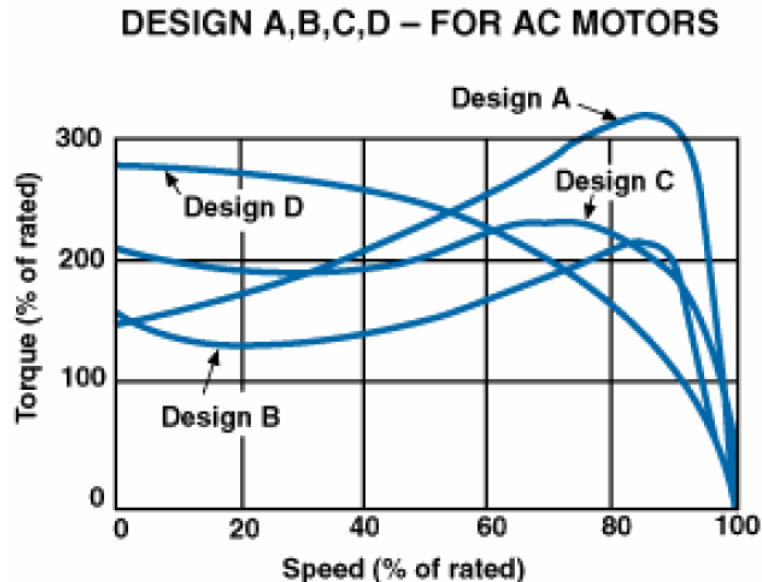

Figure 1.
1. **Determine the Motor Base Speed.** The motor base speed is determined by selecting a motor and gear reducer ratio that delivers the desired speed at the drive shaft of the screw feeder. Motors with 1800-rpm base speeds are most common in the U.S. 1200 and 3600-rpm motors are also available. Most commercially available industrial motors used in screw feeder applications are NEMA Design B motors. Depending on the horsepower and base speed, a NEMA design B motor can generate up to 275-percent of the nameplate rated torque at start up when started at full voltage across the line. Please refer to Figure 1 below. The same motor started on a VFD will